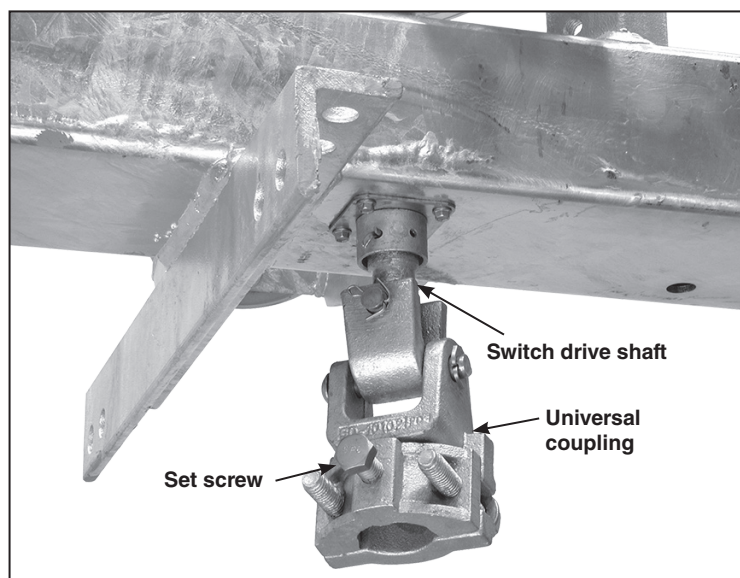

Figure 14. Attach universal coupling to switch drive shaft.
STEP 12. Attach a pipe-to-switch bearing-type universal coupling to the switch drive shaft on the underside of the switch assembly. See Figure 14.